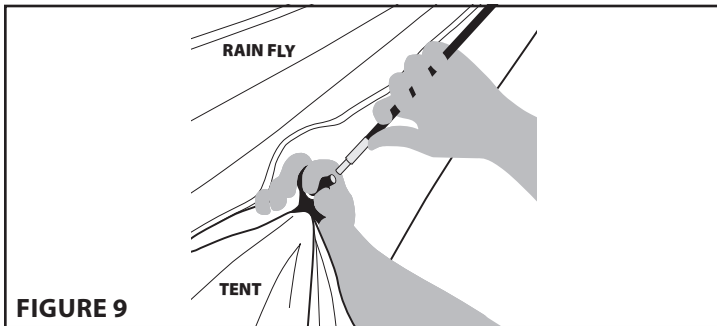

FIGURE 9
3. Starting at one corner, insert the male end of the short poles attached to the rain fly into the female end of the roof pole. Repeat this for all four corners. [**SEE FIGURE 9**]